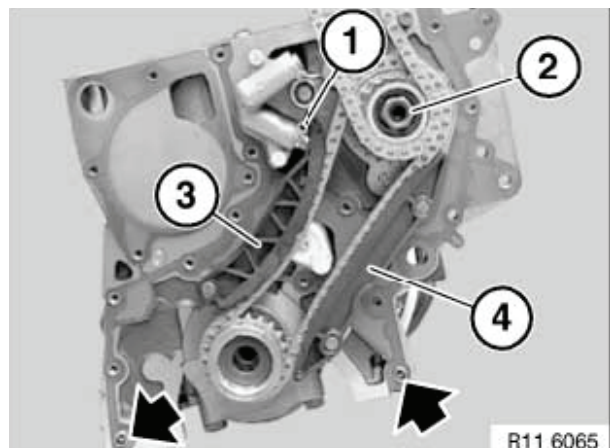

Figure 5-86
2. Compress chain tensioner rail (**Figure 5-86, (3)**) and retain with special tool OEM No. 11 3 340 (**Figure 5-86, (1)**).
3. Remove tensioner rail (**Figure 5-86, (3)**) and guide rail (**Figure 5-86, (4)**).
4. Remove nut (**Figure 5-86, (2)**).
8. Install nut (**Figure 5-86, (2)**) and tighten to 65 N·m (48 ft-lb).
9. Install tensioner rail and guide rail. Remove retainer (**Figure 5-86, (1)**).